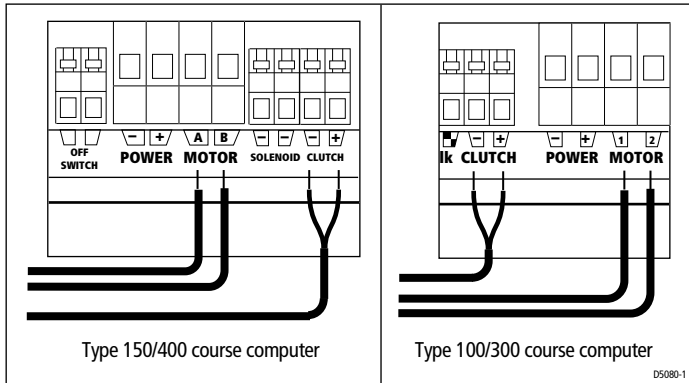

Figure 2: Course computer connections
4. Connect the cables to the course computer (see *Figure 2*):